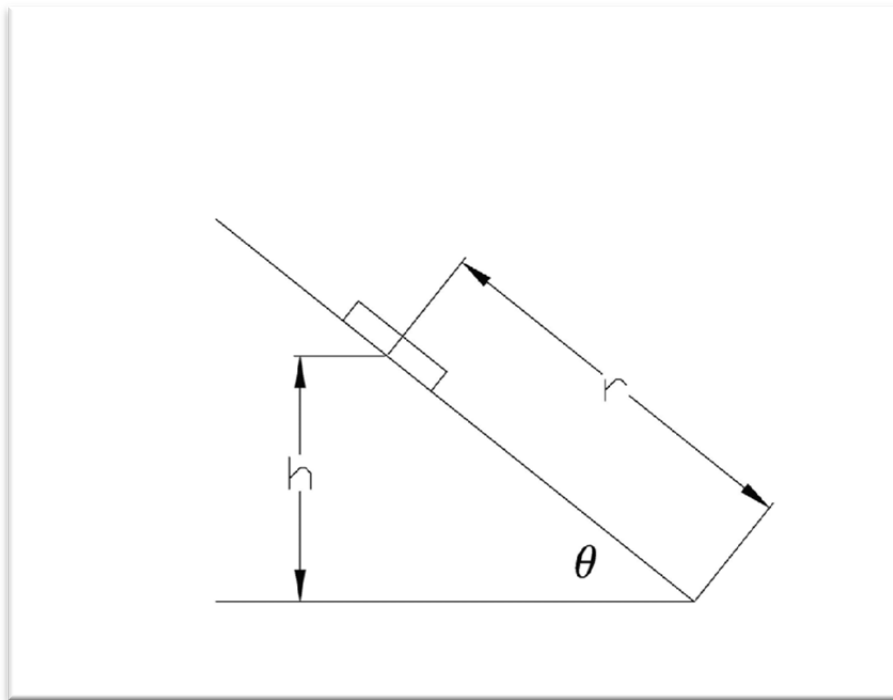

Figure 1 : Lab Procedure
2. Place the wooden plug object onto the friction cutout as seen in figure 1.
4. Raise the inclined plane until the moment the object starts to slide down the inclined plane, then measure the height from the center of object (h) as seen in figure 1.